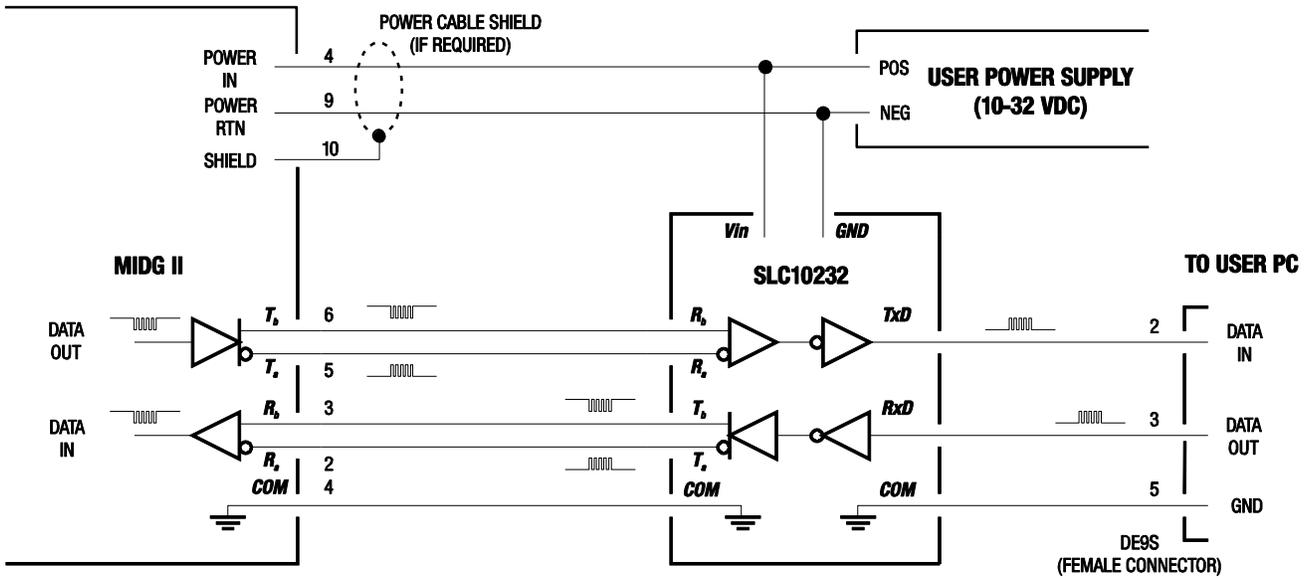

Figure 18. RS-422 to RS-232 serial voltage level converter connected between a MIDG Series INS/GPS and a PC
6.3 RS-232 Data Connections. The MIDG Series INS/GPS only supports RS-422 data communications. However, with a serial voltage level converter (such as the Microbotics SLC10232), the RS-422 data stream is easily converted into a RS-232 data stream. This enables the MIDG Series INS/GPS to communicate over an RS-232 port like those used on a PC or laptop computer. A typical connection to a PC-style serial port using the Microbotics SLC10232 Serial Voltage Level Converter is shown in Figure 18.